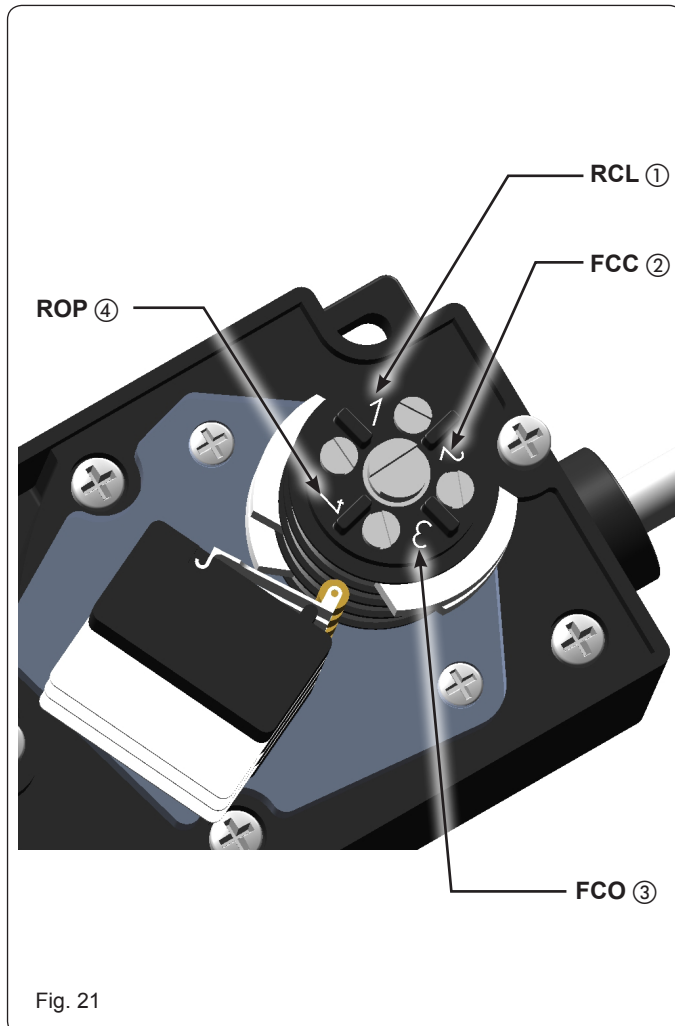

Fig. 21
5. Turn the screw corresponding to the **FCO** opening limit switch (Fig. 21 ref. ③) until the microswitch is engaged by the cam.
8. Turn the screw corresponding to **ROP** opening deceleration (Fig. 21 ref. ④) until the microswitch is engaged by the cam.
10. Turn the screw corresponding to the **FCC** closing limit switch (Fig. 21 ref. ②) until the microswitch is engaged by the cam.
12. Turn the screw corresponding to **RCL** closing deceleration (Fig. 21 ref. ①) until the microswitch is engaged by the cam.
17. Manually place the sliding leaf at half its travel and ensure that the limit switch position corresponds to Fig. 21